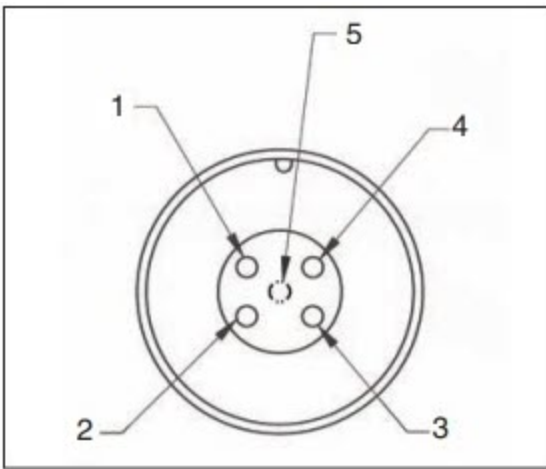

Figure 1 Diagram 1
- (1) Refer to Figure 1 for proper pin locations.
- (2) Set the multimeter to measure resistance.
- (3) Place the positive probe on pin 2 and the negative probe on pin 3.
- (4) The resistance should be less than 10W.